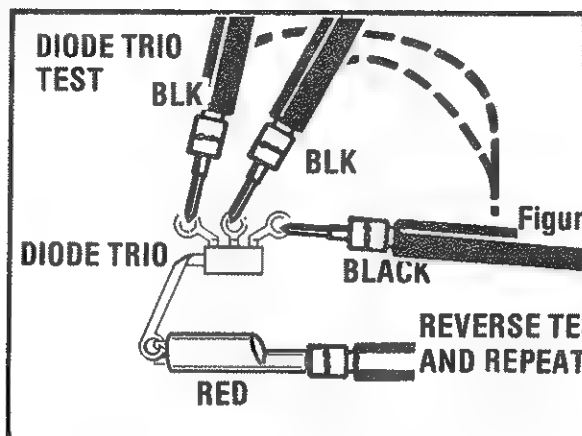

Figure 16. Diode Trio Test Hookup.
4. Connect Red test lead to the ground strap of the diode trio as shown in figure 16.